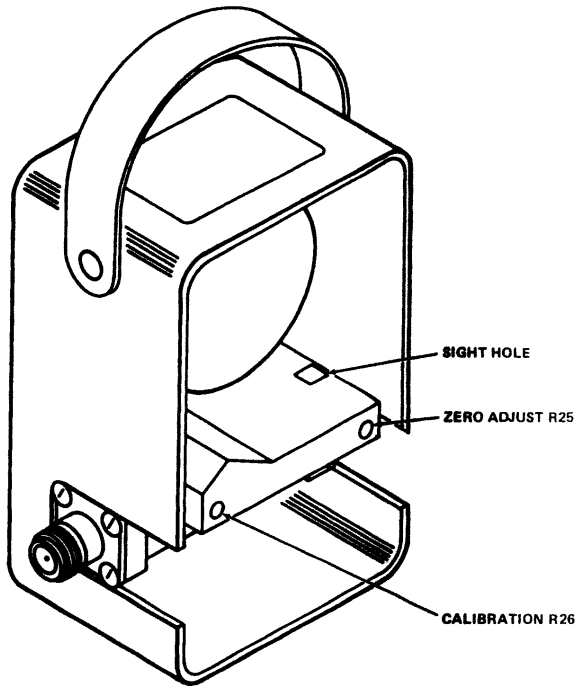

Figure 5-4. Calibration Potentiometers
- (3) Calibration Procedure. With the wattmeter selector switch in the off position, carefully turn the zero adjust screw on the face of the meter for a zero setting. Using the BAT and OFF positions on the switch, repeat this process until a repeatable zero setting is obtained. The access holes for the calibration potentiometers, R25 (electrical zero adjust) and R26 (full scale calibration) are sealed with a protective label. This label, which is signed and dated showing the original calibration date, must not be disturbed until recalibration becomes necessary and certainly not within the warranty period. Disturbing this label voids the warranty. If the unit is to be field calibrated, after the warranty period, access to the calibration potentiometers, R25 and R26, is provided by piercing the protective label at the points shown by a circle with an x in it "⊗," see figure 5-4 for reference.
- (g) Rotate the calibration element approximately 90° so as to short the contact in the socket to the line section body. If the meter needle does not come to rest at exactly zero, then adjust R25 counterclockwise, very slowly, just until it does. The location of R25 is shown in figure 5-4. If the pointer already rests at exactly zero, then go on to step (h).
- (i) Adjust R26 until the meter pointer is at "1," full scale on the uppermost scale. The location of R26 is shown in figure 5-4.